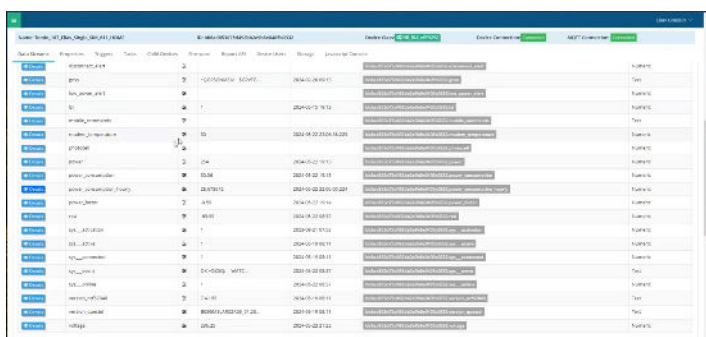

Figure 10: Tondo CMS Back-End (Fully-Managed)
**A key advantage of using Tondo’s Cloud IQ CMS is its fully managed “back-end” network (see Figure 10), making it entirely transparent to city operations teams.**